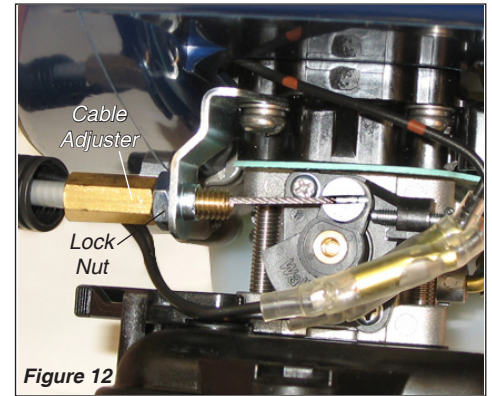

Figure 12
2. Loosen the lock nut on the cable adjuster. See Figure 12.
3. Turn the cable adjuster in or out as required to obtain proper free play 3/16-1/4 inch (4-6 mm). See Figure 12.